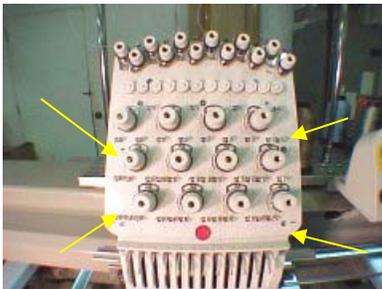

Fig. 1
4. Remove the four screws that hold the face of the tension base to the machine. See fig.1. The top two are Phillips head and the bottom two are 3mm allen screws. Note: If you place the tension base on the thread stand you won't have to disconnect the wires connected to it.